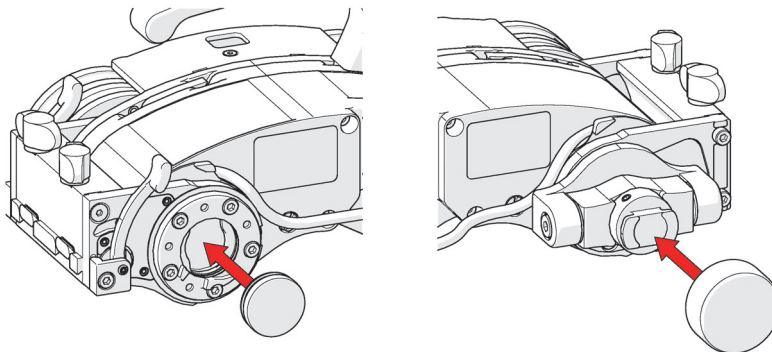

Figure 2-26 Use caps on the connection pivots
4. Use the provided caps to protect the connection pivots from dirt, dust, mud, etc. (see Figure 2-26 on page 66).